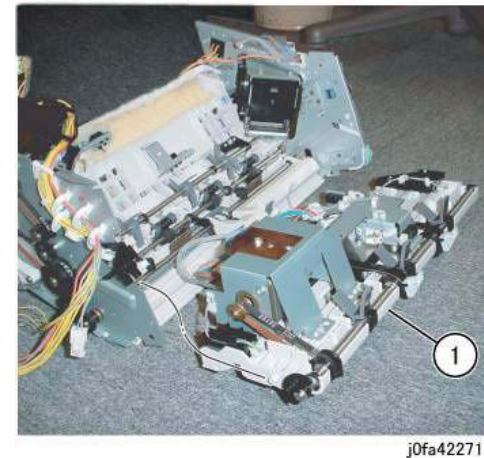

Figure 7 Removing the Compiler Assembly
14. Remove the Compiler Assembly (Figure 7):